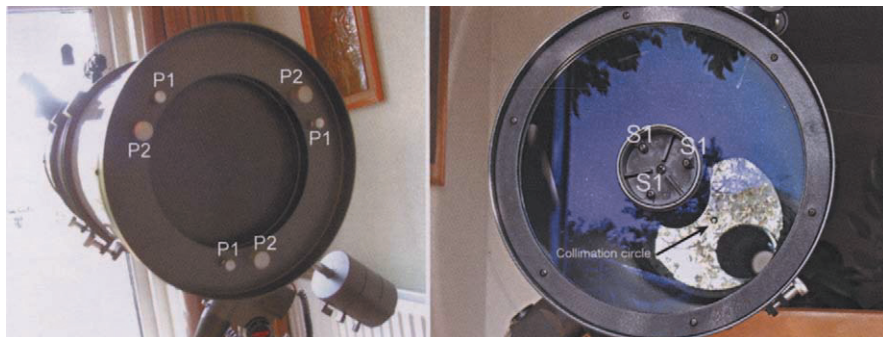

Figure 11.3. SNT collimation screws (front and back).
Short focal length SNTs tends to be more involved compared to SCTs or Refractors, when carrying out collimation of the optics. This is because there are two sets of collimation screws to adjust, one set for primary mirror and the other set on the front corrector plate for the secondary mirror (Figure 11.3). There is also a small circle located at the centre of the primary mirror to aid with laser collimation. The circle was placed on the mirror during factory assembly.
3. Remove the front dust cap (Figure 11.3, lower right) covering the collimation screws located in the centre of the front corrector plate.